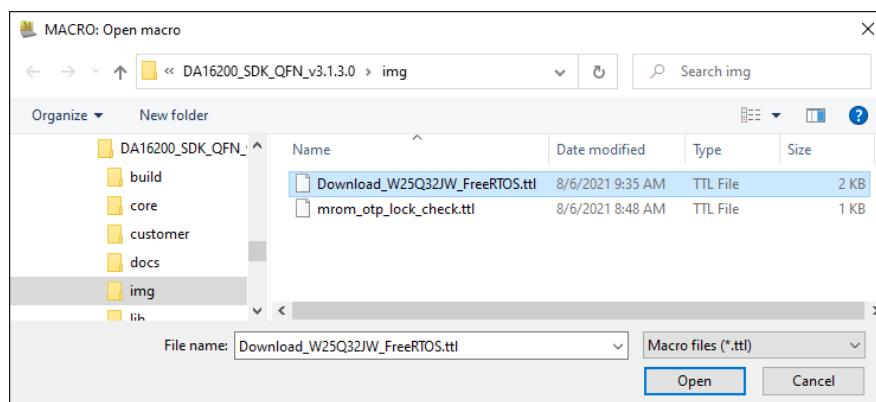

Figure 5: Open Macro File
2. When the **MACRO: Open Macro** file selection window opens, navigate to the directory where the firmware images are stored and select the `.ttl` file as Figure 5.